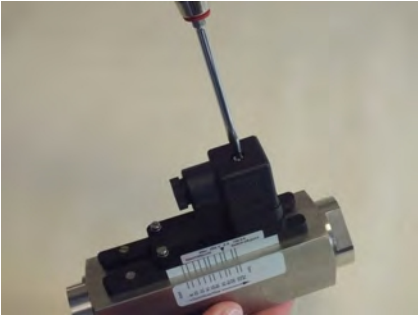

Fig. 20: Detach socket
1. Release the fixing screw (Fig. 20) from the socket
9. ➤ Place the female socket onto the connecting plug and tighten the fixing screw (Fig. 20/1)